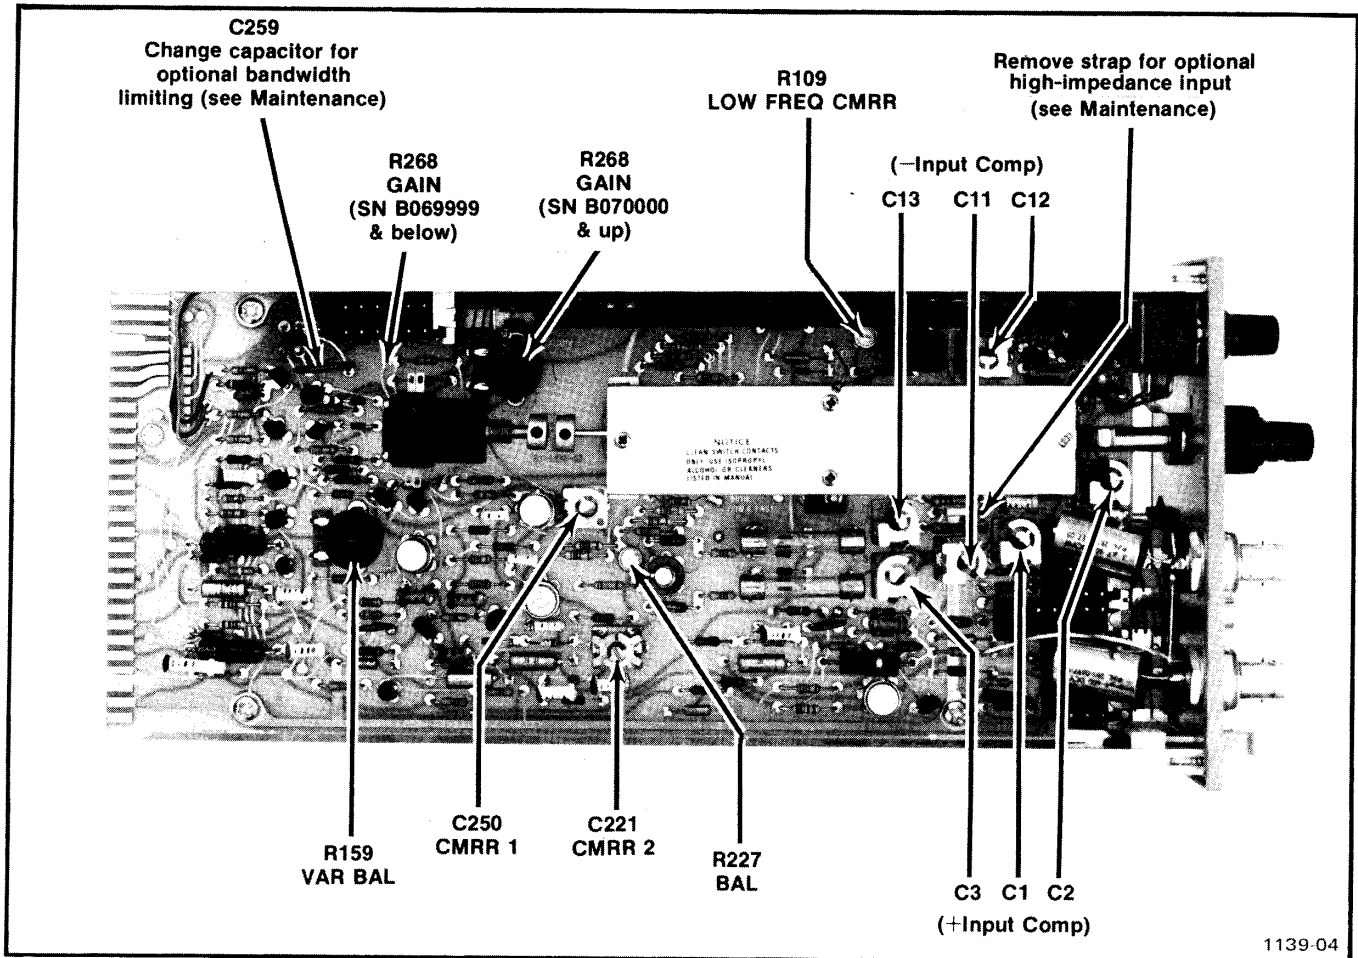

Fig. 5-1. Adjustment locations.
- ADJUST—R159, Var Bal, for minimum trace shift as the CAL control is rotated throughout its range. See Fig. 5-1 for adjustment location. Re-adjustment of the POSITION control may be necessary to return the trace to graticule center after the minimum shift has been attained.
- ADJUST—R227, Bal, for minimum trace shift. See Fig. 5-1 for adjustment location. If the trace goes off-screen at higher sensitivities, start at the position of the VOLTS/DIV switch at which an on-screen display is obtained and adjust R227, Bal, working down to the 50  $\mu$ V position, so the trace remains on-screen at 50  $\mu$ V. Make the fine adjustment to bring the trace to screen center with the front-panel ATTEN STEP BAL control. Maximum allowable shift of the trace is one division as the VOLTS/DIV switch is rotated.
- Adjust—R268, Gain, for a display amplitude of exactly five divisions. See Fig. 5-1 for adjustment location.
d. ADJUST—C1 and C2, + Input Comp, for minimum roll-off or overshoot at top leading corner of square-wave display. See Fig. 5-1 for adjustment locations.
g. ADJUST—C3, + Input Comp, for minimum roll-off or overshoot at top leading corner of square-wave display. See Fig. 5-1 for adjustment location.
l. ADJUST—C11 and C12, - Input Comp, for minimum roll-off or overshoot at bottom leading corner of square-wave display. See Fig. 5-1 for adjustment locations.
o. ADJUST—C13, - Input Comp. for minimum roll-off or overshoot at bottom leading corner of square-wave display. See Fig. 5-1 for adjustment location.
f. ADJUST—R109, Low-Freq CMRR, for minimum deflection. See Fig. 5-1 for adjustment location.
e. ADJUST—C221, CMRR 2, for minimum vertical deflection (must be two divisions or less). See Fig. 5-1 for adjustment location.
f. ADJUST—C250, CMRR 1, for minimum display amplitude on each setting when switching the VOLTS/DIV over the range of 1 mV to 50 mV. See Fig. 5-1 for adjustment location.